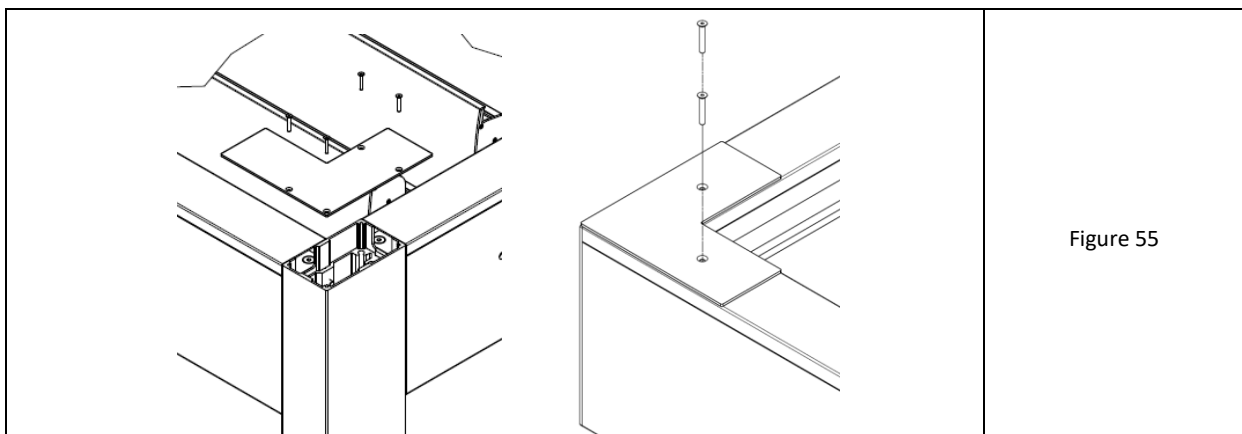

Figure 55
5. In the corners of the pergola, put corner end caps on the revision. For corners with posts, tighten the end cap through the existing system of holes for 4 countersunk screws with an Allen socket M4x25 (fig. 55-left).
7. Before installing, it is recommended to degrease the bottom side of the end cap and apply sealing compound. Place the end cap on the revision and align the openings. Tighten from above with countersunk screws M5x35 and Allen socket (fig. 55-right). After tightening, secure the screw heads with sealant.